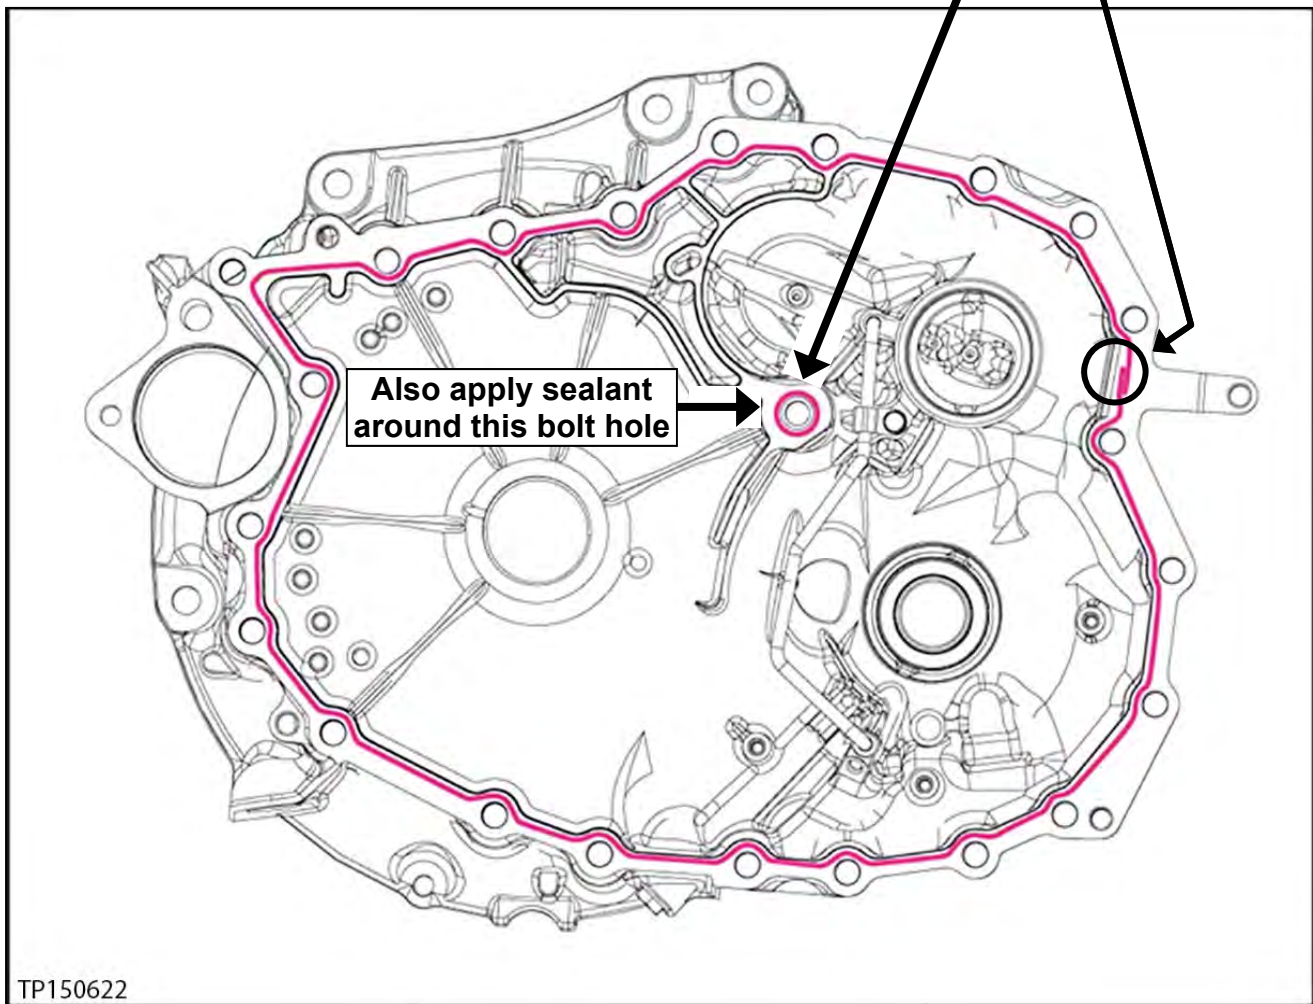

Figure 148
113. Apply one continuous 2.0 mm (**0.8 inches**) diameter bead (Figure 148) of pink colored Loctite 5460 Sealant (see **PARTS INFORMATION** on page 91).
- Before sealant application, make sure the mating surfaces are clean from oil, dirt, old sealant, etc. (Figure 148).